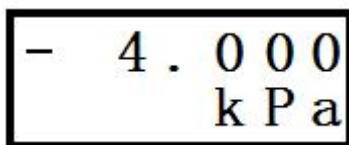

Fig.37
③ Press either the "left" or "right" key once to enter data editing mode; a flashing cursor will appear on the monitor.
④ Press "left" key three times to move the cursor to the first digit "0" to the left of the decimal point;
⑤ Press the "right" key four times to change the digit from "0" to "4";
⑥ Press the "left" key twice to move the cursor to the sign "+";
⑦ Press the "right" key once to toggle the sign from "+" to "-", as shown in Figure 37.